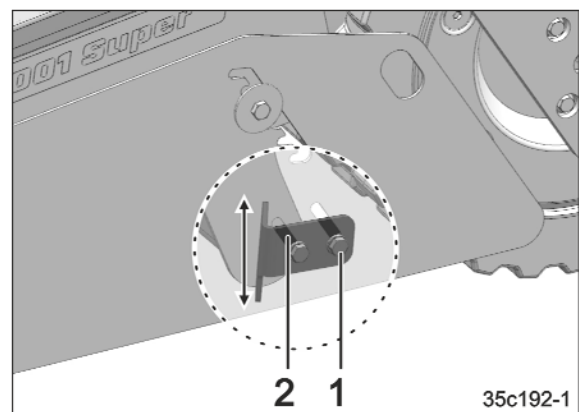

Fig. 112
1. Loosen the bolts (Fig. 112/1).
2. Move the soil guiding angle bracket (Fig. 112/2) to the desired position.